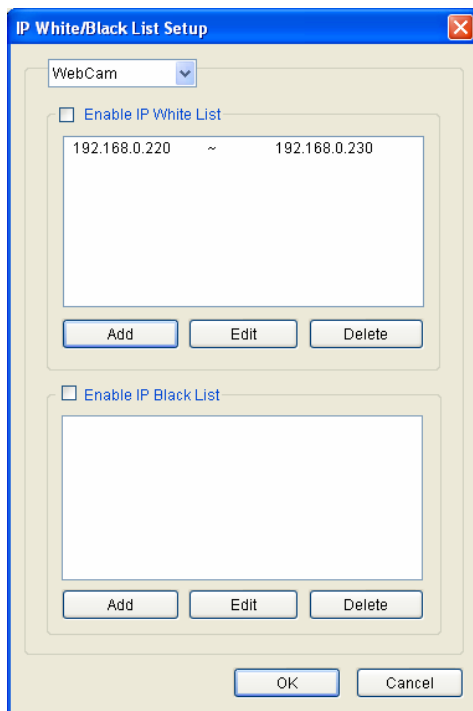

Figure 11-66
- **Block IP:** Prohibits the IP address from connecting to the WebCam server. To use the function, the **Enable IP Black List** option (Figure 11-66) must be selected first.